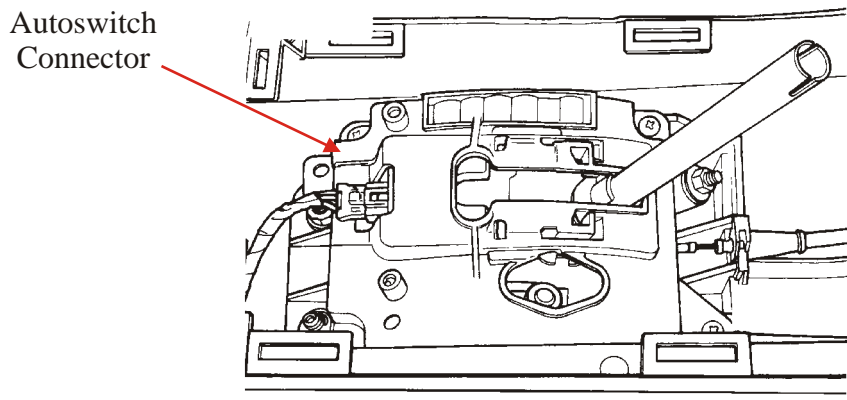
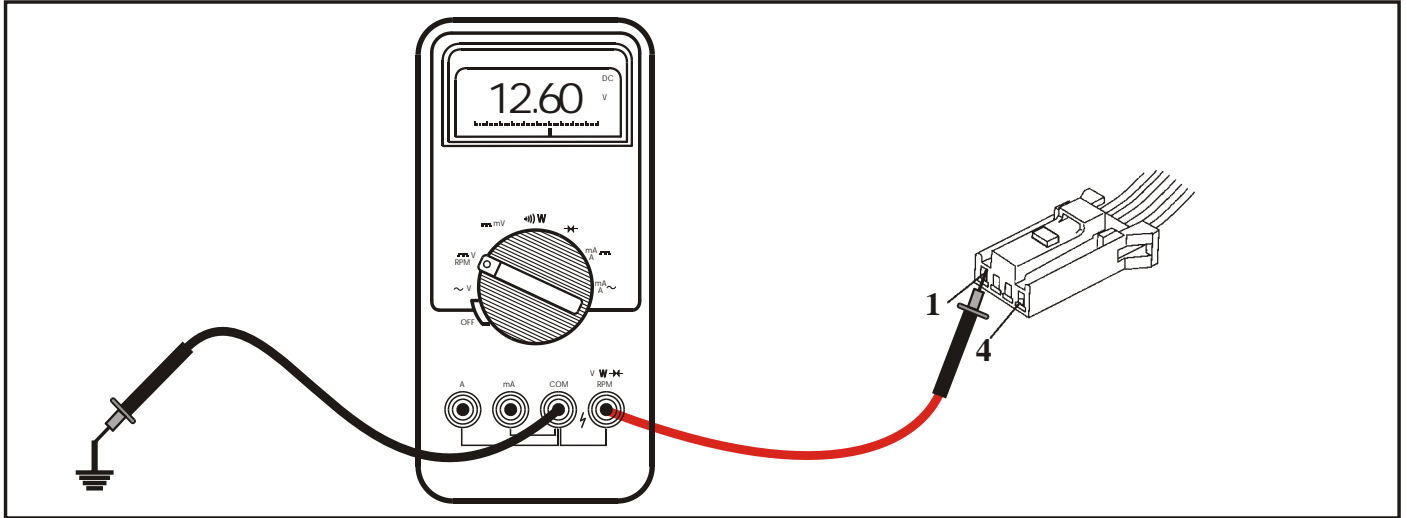

Figure 2
Figure 3
- (1) Locate and unplug the Autostick Switch in the center console (See Figure 2). Using a volt meter, turn the ignition ON and place the negative lead to ground. With the positive lead check for battery voltage at pin 1 in the Autostick connector (See Figure 3). If voltage is not seen, check for a blown fuse. LH vehicles check fuse No. 17, all others check fuse No. 11. If the fuse is good, the wire from the fuse to pin 1 is severed and will need to be repaired or replaced.